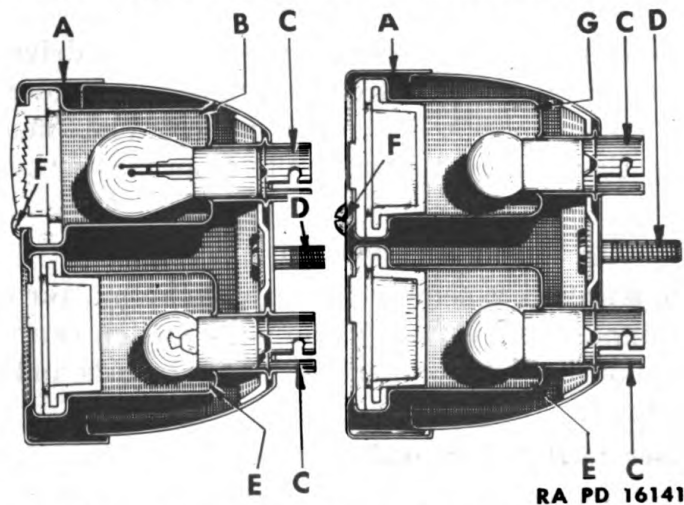

Figure 124—Blackout and Service Stop and Tail Lamp
a. Complete Lamp Assembly Removal—(Fig. 124). Removal procedure for both rear lamps is identical.
(1) Disconnect wiring at connectors located at back of lamp above stern deck rear plate. Remove nuts from two mounting studs at back of lamp and pull lamp clear of mounting bracket.
(1) Put lamp in position against mounting bracket with mounting studs through holes in bracket and install nuts on studs; tightening securely. Connect wiring at connectors at rear of lamp. Be sure to connect wiring properly. Refer to Section XVIII, "Electrical System—Wiring" for correct wiring hook-up.
c. Bulb And Lens Unit Removal—(Fig. 124). Bulb is soldered to the lens retainer, and retainer is crimped over lens and fitter to make a unit assembly. When bulb is burned out, it is necessary to replace this complete unit. This applies to both rear lamps.
(1) Remove bulb and lens unit cover attaching screws and remove cover. Pull burned out unit out of socket in lamp housing.